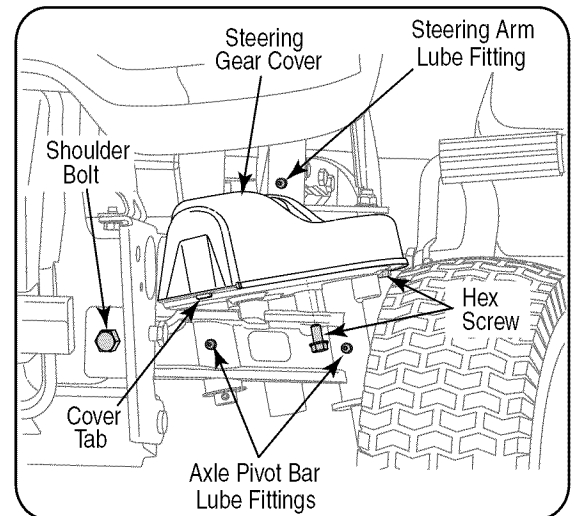

Figure 20
- Apply grease through the lube fitting on the RH and LH steering arms which are located at rearward end of the two steering drag links. See Figure 20.
- Locate the lube fittings for the pivot shaft and axle on the front of one end of the axle pivot bar. Apply grease through the two lube fittings, then repeat to lubricate the other end of the pivot bar. See Figure 20.
- From beneath the cover base plate on each end of the pivot bar, remove the three hex screws securing the steering gear cover. Remove the covers and clean the gears. It is not necessary to lubricate the gears. Refer to Figure 20.
- Support the pivot bar, then remove the hex lock nuts securing the two shoulder bolts that pass through the pivot bar bracket, the pivot bar, and frame. Refer to Figure 20.